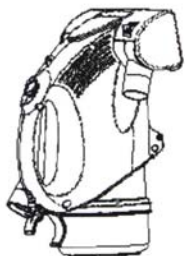

Fig. 6
1. To remove the dust cup (container), hold the unit in the upright position to prevent the dust from falling out of the dust cup. (Fig. 6)